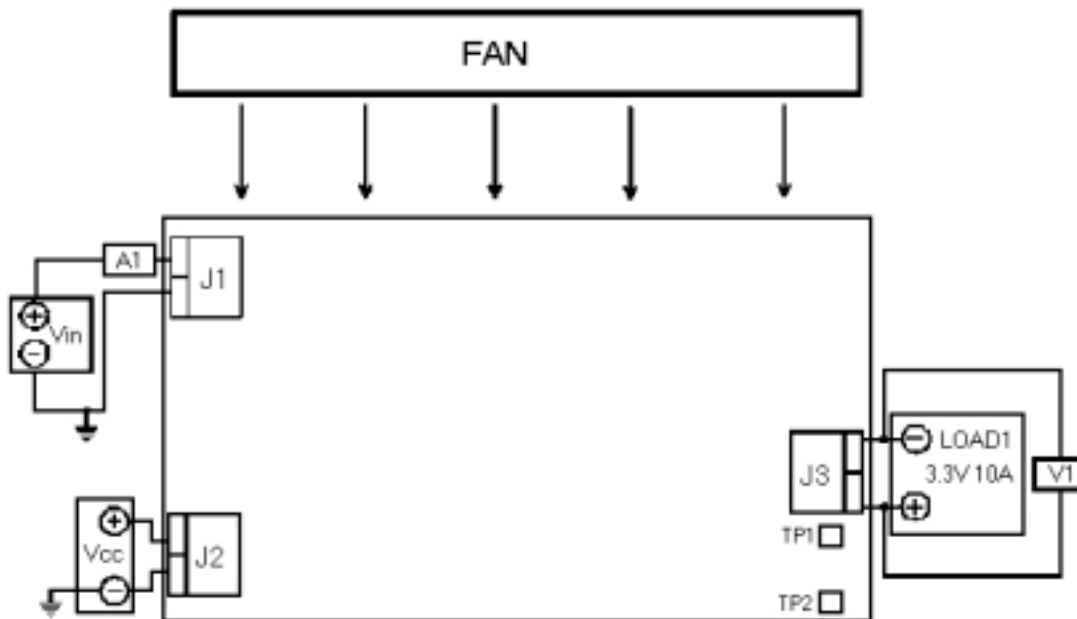

Figure 2. Recommended EVM Test Configuration
Testing and evaluation of UCC35705EVM requires two dc voltage supplies (V_{IN} and V_{CC}) and an output load (LOAD1) as shown in Figure 2. Note that the primary side ground J1 and J2 is isolated from the secondary side ground (J3) and J3 has the opposite polarity of J1 and J2. Loop test points TP1 (V_{OUT}) and TP2 (Feedback) are connected by a 50- Ω resistor and allow the user to connect a network analyzer for loop response evaluation.
UCC35705EVM is not designed with self-biasing circuitry and requires an external bias supply to provide power to the PWM and driver circuitry. V_{CC} is a variable dc voltage source capable of supplying between 0 V_{DC} and 12 V_{DC} at no less than 300 mA. V_{CC} is connected to J2 as shown in Figure 2.
The input voltage source is a variable dc source capable of supplying between 0 V_{DC} and 72 V_{DC} at no less than 1.5 A_{DC} , and connected to the input terminals (J1) as shown in Figure 2. For fault protection to the EVM, it is good common practice to current limit the source to no more than 2 A_{DC} . A dc ammeter (A1) inserted between the input source (V_{IN}) and input terminals (J1) ensures accurate input current readings.
2. Set V_{CC} supply to 0 V and connect V_{CC} to J1 as shown in Figure 2.
4. Connect LOAD1 and the voltmeter, V1 to J1 as shown in Figure 2. Set LOAD1 to constant current mode to sink 0 A_{DC} before V_{IN} and V_{CC} are applied.